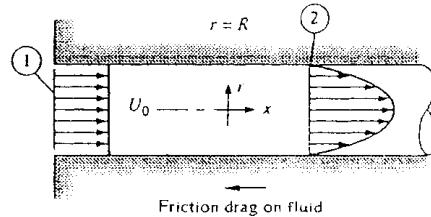

Fig. P3.53
**3.53** Consider incompressible flow in the entrance of a circular tube, as in Fig. P3.53. The inlet flow is uniform,  $u_1 = U_o$ . The flow at section 2 is developed pipe flow. Find the wall drag force  $F$  as a function of ( $p_1$ ,  $p_2$ ,  $\rho$ ,  $U_o$ ,  $R$ ) if the flow at section 2 is